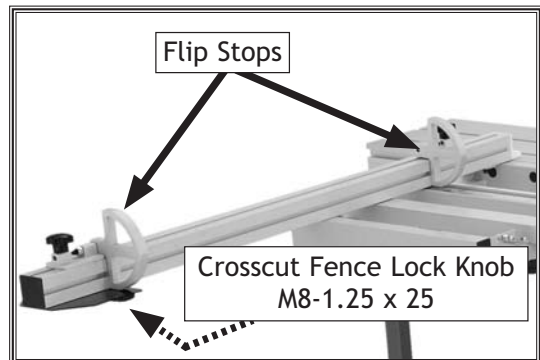

Figure 27. Flip stops installed on crosscut fence.
23. Install the flip stops in the T-slot on the crosscut fence, as shown in **Figure 27**, and use the crosscut fence lock knob to secure the extendable end of the fence in position.